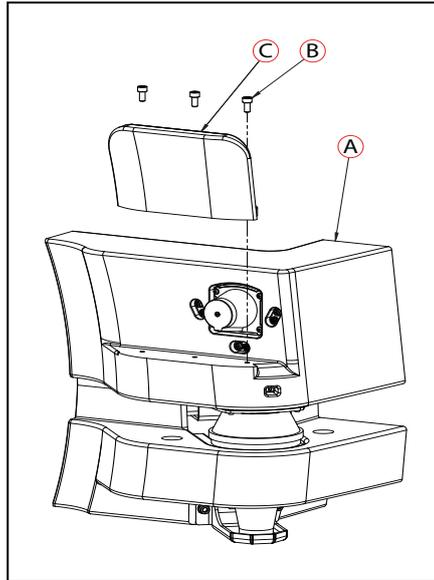

Figure 8-40. (A) Laser Corner, (B) M6 Screw, and (C) Laser Cover Fin
Once the skin is removed, you can access the back of the laser corner ((A) in Figure 8-40. and remove the side laser as instructed in the following steps.
3. Unscrew all three M6 screws ((B) in Figure 8-40. ), and remove the laser cover fin ((C) in Figure 8-40. ).
4. Unscrew three M4 screws ((D) in Figure 8-40. ) that attach the side laser bracket to the laser corner ((A) in Figure 8-40.
5. Next, unscrew the three M3 screws ((B) in Figure 8-40. ) that mount the bracket to the side laser as shown in Figure 8-40.